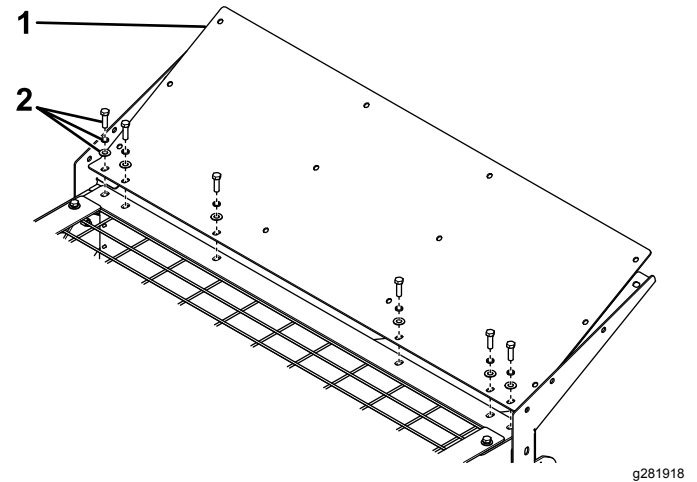

Figure 3
5. Secure the spill guard main plate to the hopper and top screen using the previously removed washers, split lockwashers, and bolts (Figure 3).